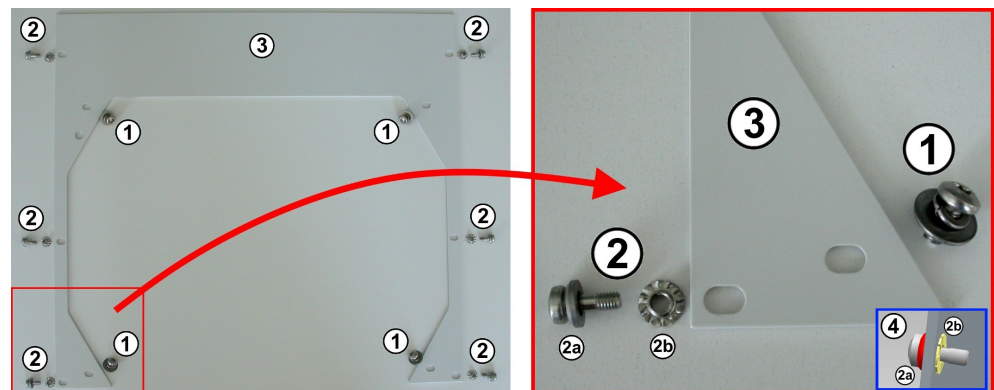

Figure 6-6: Matching the screws and washers to the various holes in the metal rack cover sheet
8. Attach the six screws, washers and grounding sockets (labeled (2) in Figure 6-6) to the six outer holes in the metal rack cover sheet.
Make sure to insert the grounding sockets (2b) from the rear side of the cover sheet, and the M5 screws and small washers (2a) from the front side. The result is shown in detail (4) in Figure 6-6. Once inserted and tightened to the grounding sockets, you cannot remove the M5 screws from the metal sheet.
10. Fix the metal rack cover sheet to the M5 cage nuts in the rack by the six screws (2) in Figure 6-6.
11. Fix the metal rack cover sheet to the chamber, using the four screws and washers (1) in Figure 6-6.